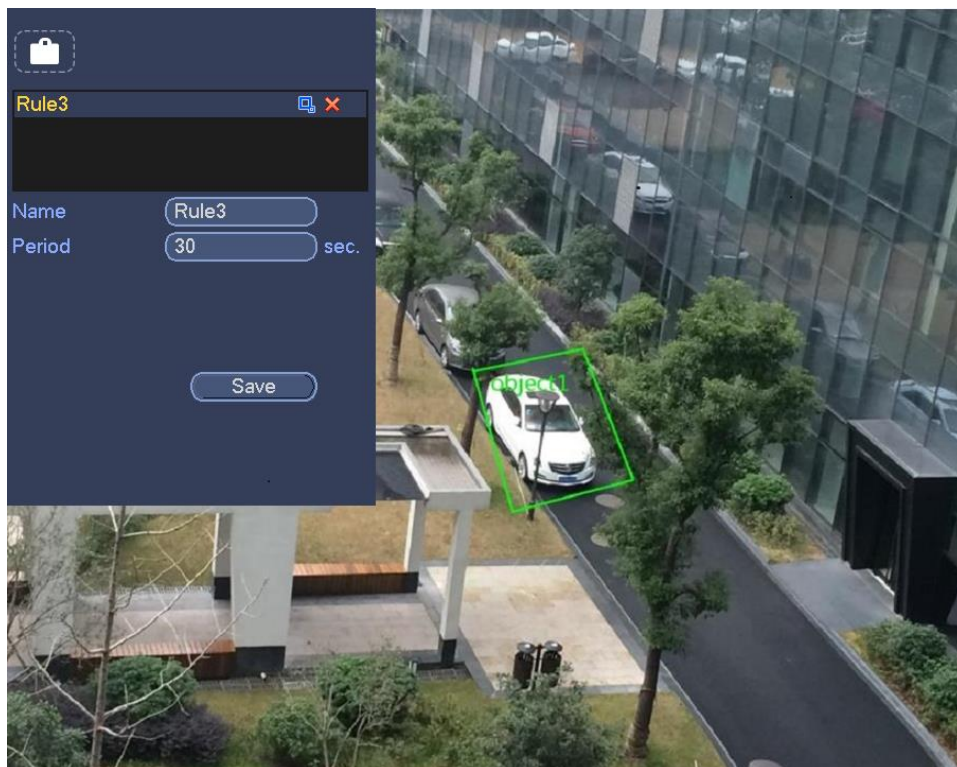

Figure 4-152
1. Click draw button  to draw the zone. See Figure 4-152.